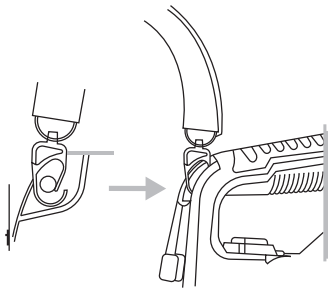

Fig1
- Attach the carrying strap to the unit. (Fig.1)